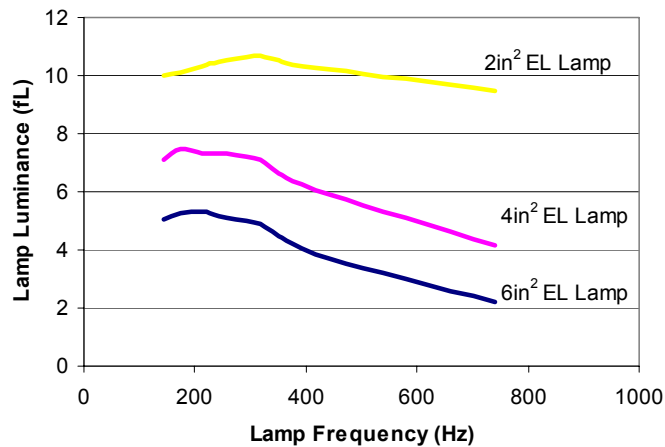

Figure 2: Typical Lamp Luminance vs. Lamp Frequency
The selection of the CLF value can also affect the brightness of the EL lamp because of its control of the lamp frequency (LF). Although input voltage and lamp size can change EL lamp frequency as well, LF mainly depends on the CLF value selected or the frequency of the input clock signal to CLF. The luminance of various sizes of a DUREL 3 Blue-green EL lamp driven by a D356B IC driver at $V^+ = 3.0V$ using the same inductor value is shown in Figure 2 with respect to lamp frequency.